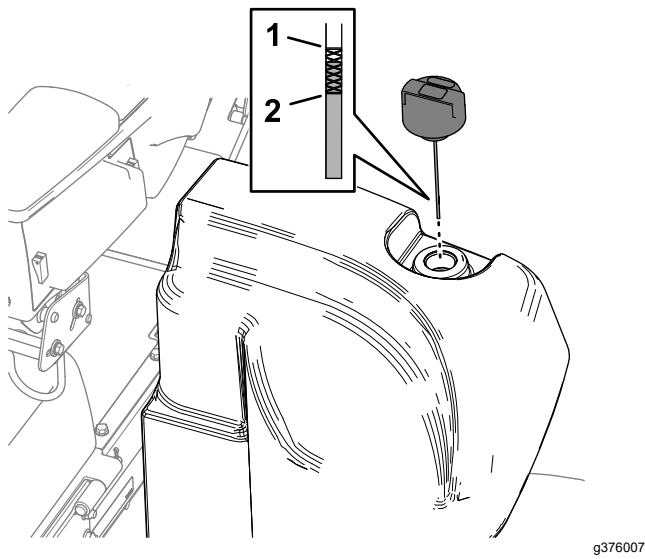

Figure 100
2. Clean the area around the filler neck and the cap of the hydraulic tank (Figure 100).